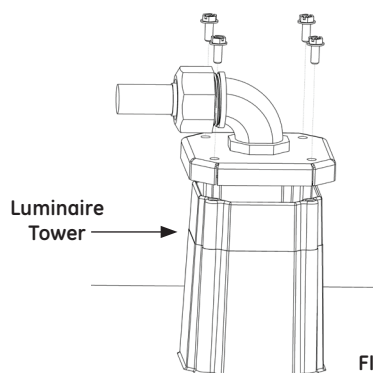

FIGURE 2
- Securely tighten the new access plate with the routing elbow to the luminaire using the screws originally provided for the original access plate (See Figure 2).